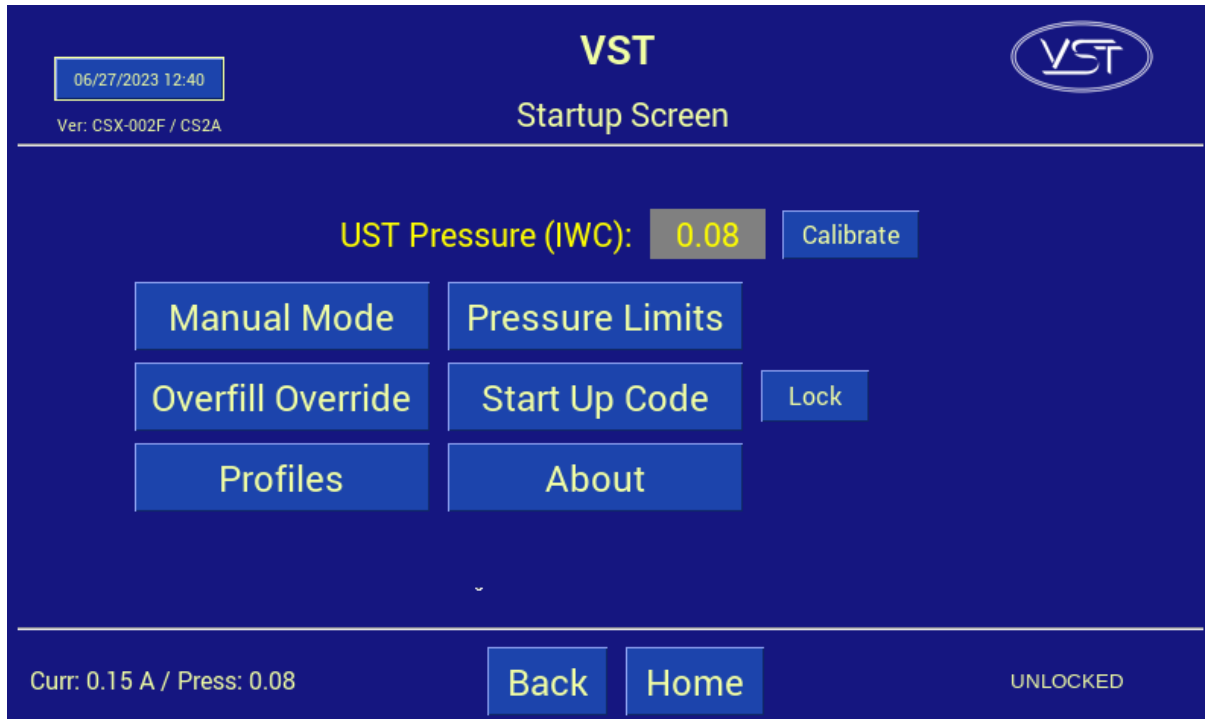

Figure 6-9: Startup Screen
- To manually override the Overfill Alarm once the test is complete, navigate to the Startup Screen. **See Figure 6-9.**
7. Push the "Startup Code" button. **See Figure 6-9.**